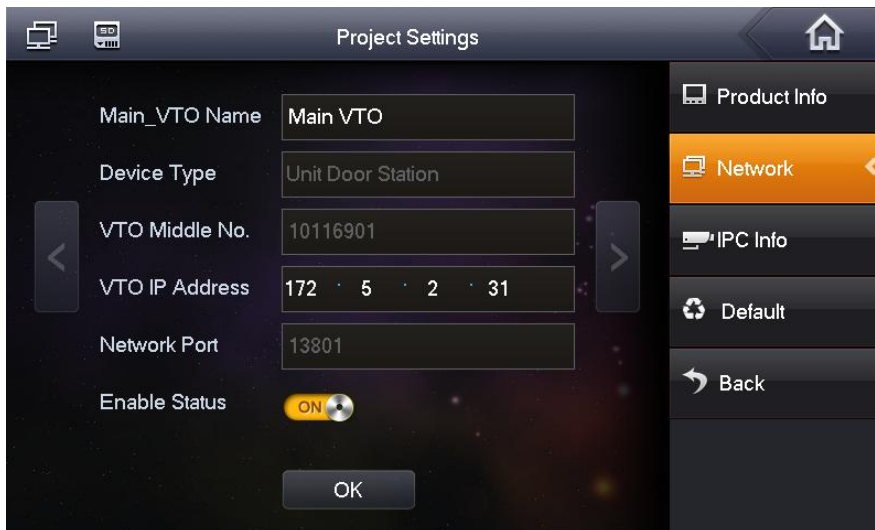

Figure 2-5
Step 2 Check Network, input main VTO IP in Network, then point ok to save it. See Figure 2-5.